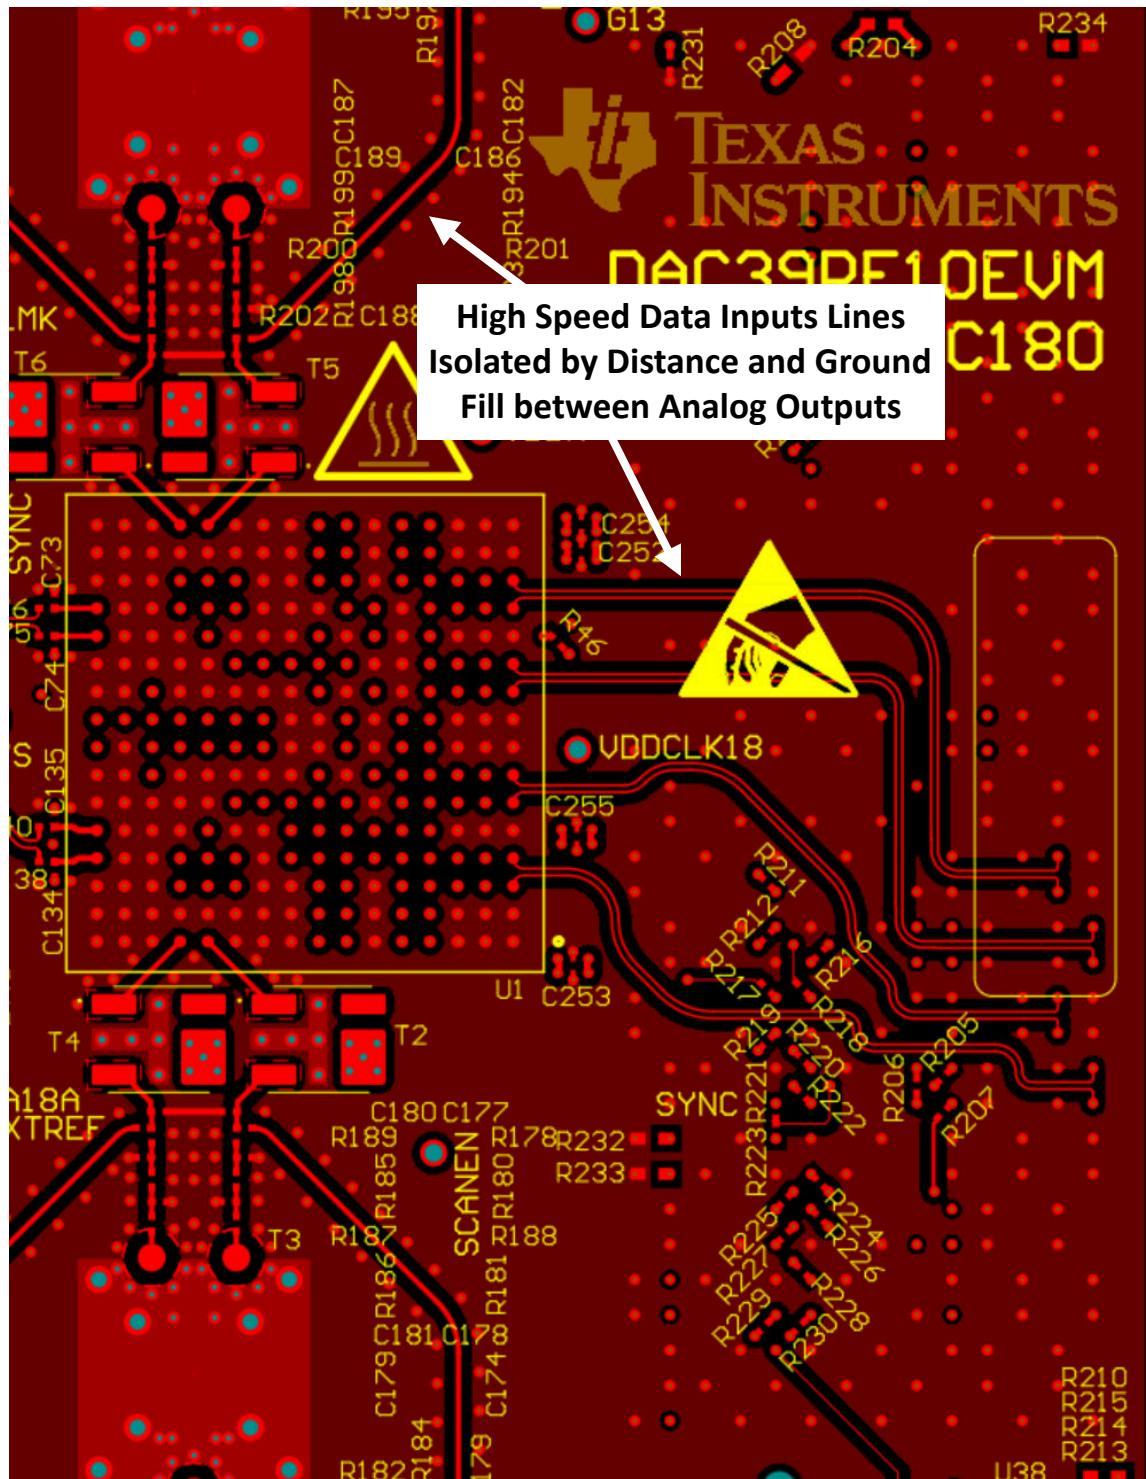

Figure 8-29. Serdes Top Layer Routing with Ground Fill Isolation
9. Pay particular attention to potential coupling between JESD204x data input routing and the analog output routing. Switching noise from the JESD204x inputs can couple into the analog output traces and show up as wideband noise due to the high bandwidth of the DAC. Route the Serdes JESD204x data inputs on a separate layer, if possible, from the DAC output traces to avoid noise coupling, see Figure 8-29 and Figure 8-30 as examples.